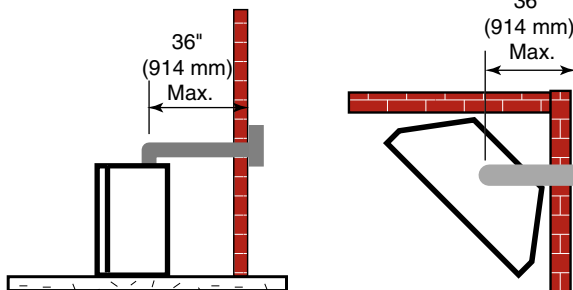

Figure 21 -
- If a 90° elbow is fitted directly on top of the fireplace flange, the maximum horizontal vent run before the termination or a vertical rise is 36" (914 mm). *Figure 21*